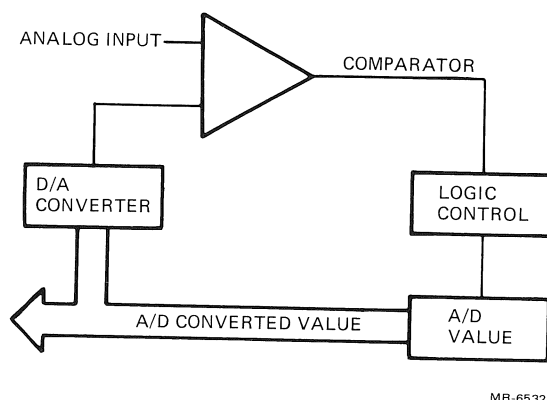
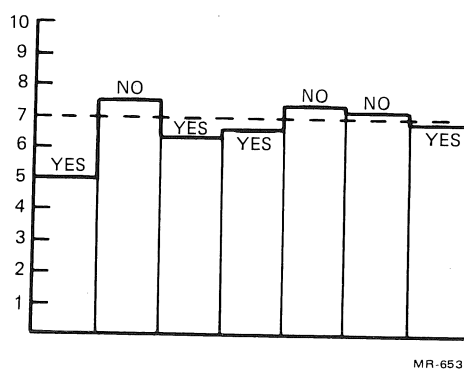

Figure G-2 Analog Circuit for Successive Approximation
Figure G-3 Successive Approximation Decision Diagram
**Successive Approximation** – A method that is used to change the analog signal to a digital number. With this method, an analog signal is compared to a logic-generated signal. (See Figure G-2.) The logic always supplies a half-range signal at first as shown in Figure G-3 and Table G-1. For example, the input for the desired system is 7 V, and the full-scale input to the A/D converter is 10 V.